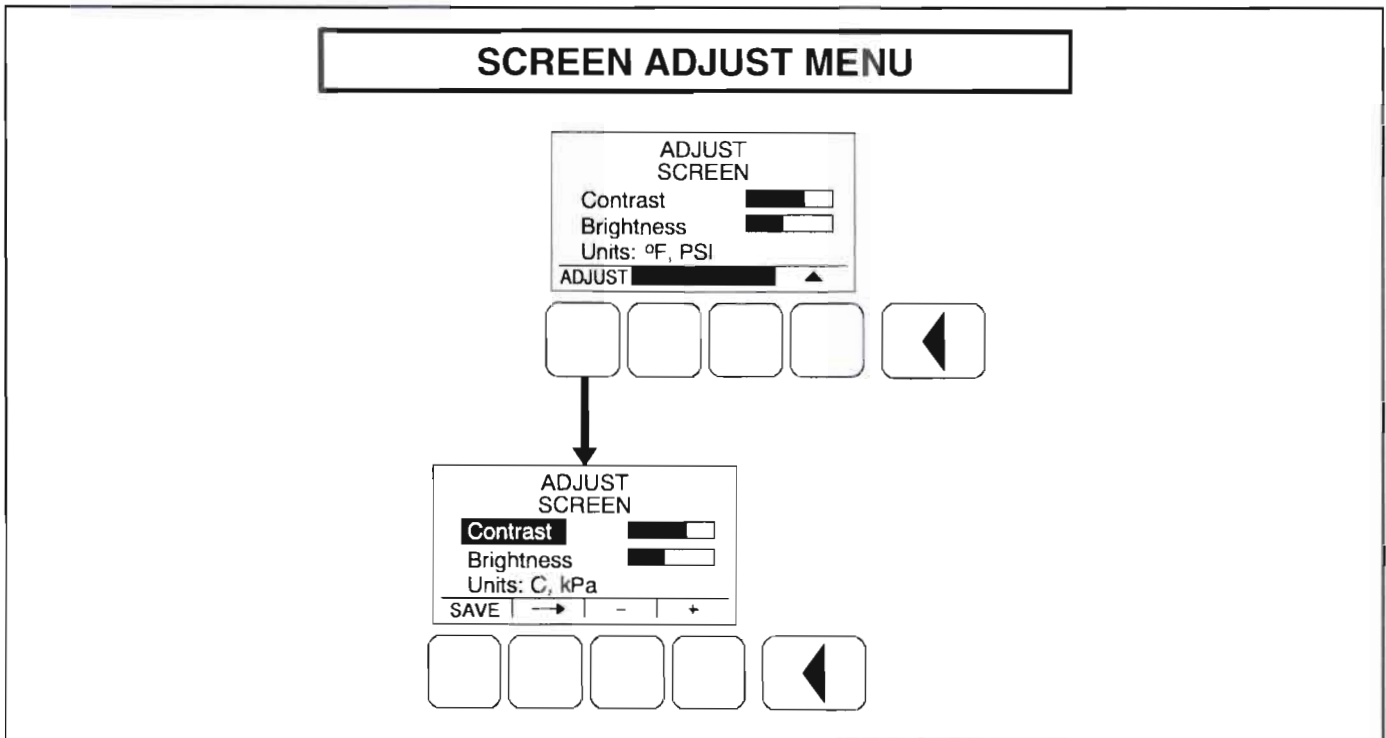

FIGURE 4-16. SCREEN ADJUST MENU
Figure 4-16 shows a block representation of the Screen Adjust menu. The Screen Adjust submenu is displayed when the (3) button is pressed in the first Service Menu.